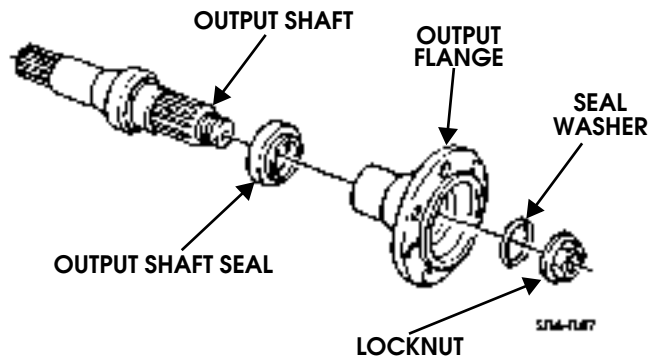

Figure 9-61: Output Shaft Assembly Breakdown
4. Remove locknut, seal washer, output flange and output shaft seal from output shaft. Discard seal washer, output shaft seal, and locknut (Figure 9-61).